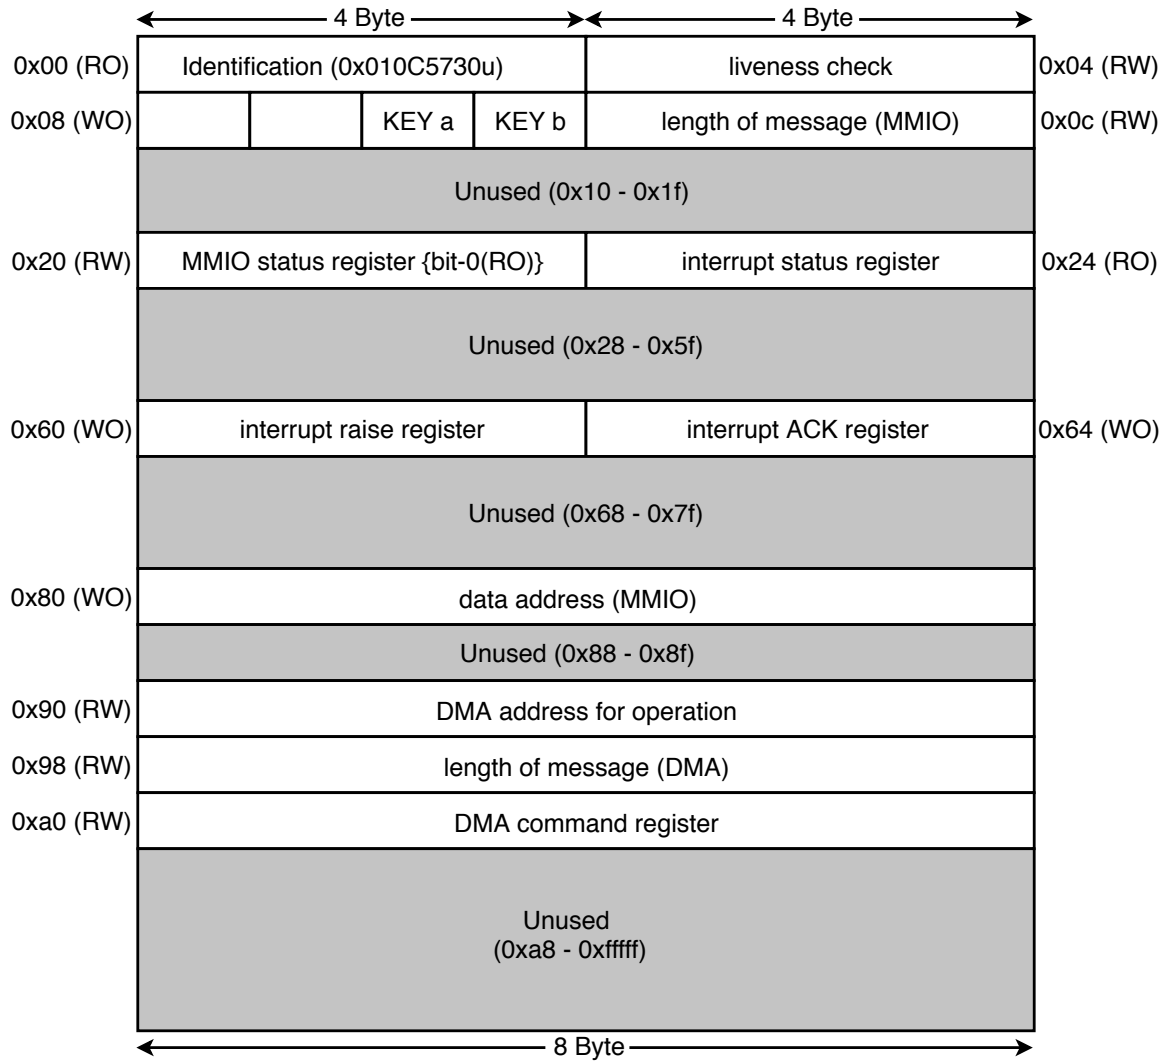

Figure 1: CryptCard memory region.
Figure 1 shows the one MB of input/output memory layout that is used to communicate with the CryptoCard. Device has registers of two sizes —(i) 4 byte, and (i) 8 byte. Device input/output memory below address 0x80 can only accommodate 4 byte while addresses above 0x80 can accommodate 8 byte of data at a time. As shown in Figure 1, operation on device registers or memory regions can be performed on three ways, i.e., (i) read only (RO), (ii) write only (WO), and both read & write (RW). Some of the memory regions of the CryptoCard is unused, that can be utilized by the device driver if needed.